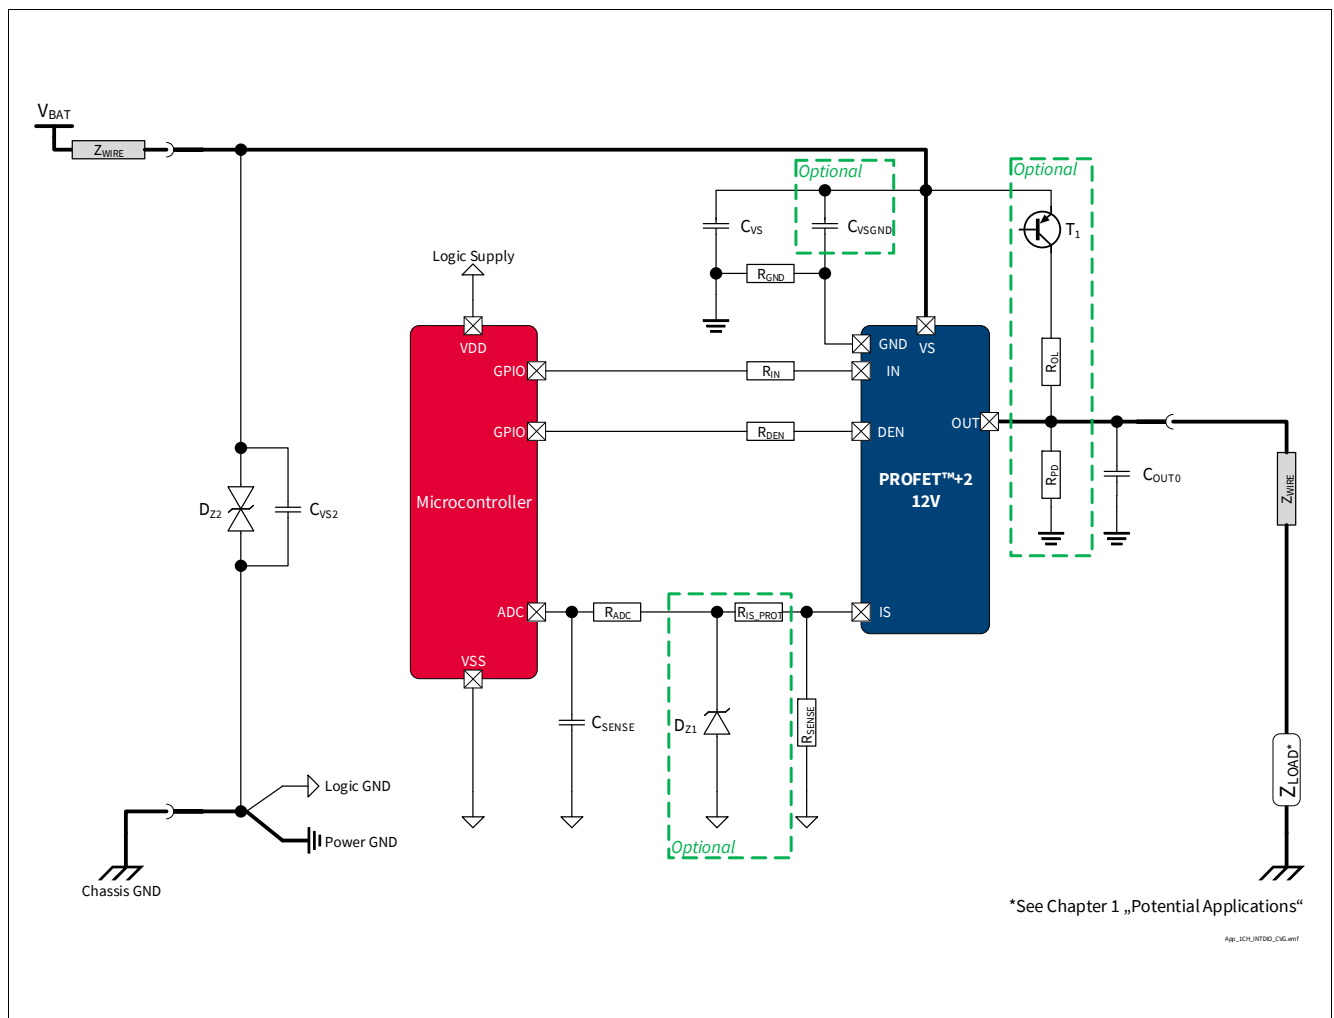

Figure 37 BTS7002-1EPP Application Diagram
1.04 , 2019-10-15	<p>P_6.5.20.1 updated (Typ.: 0.01 μA \rightarrow 0.1 μA)</p> <p>P_8.7.10.1, P_8.7.10.7, P_8.7.10.8 updated (added in Note or Test Condition: link to Figure 24)</p> <p>P_7.5.10.5 updated (added in Note or Test Condition: see Figure 18)</p> <p>P_7.5.10.12 updated (added in Note or Test Condition: see Figure 20; deleted unnecessary space in Symbol: $dV_{OUT} / dt \rightarrow dV_{OUT} / dt$)</p> <p>P_8.7.10.6 updated (added in Note or Test Condition: see Figure 25)</p> <p>P_9.7.10.1 updated (added in Note or Test Condition: see Figure 32)</p> <p>Figure 1, Figure 37 updated</p> <p>P_4.3.0.7 added</p> <p>Table 22 updated</p> <p>Chapter 5.1 updated (added: see Chapter 10 for the complete application setup overview)</p> <p>Chapter 9.2 updated ($2\text{ V} \rightarrow V_{DS(OFF)}$)</p> <p>General: updated (ReverSave™ \rightarrow ReverseON)</p>
1.01 , 2018-06-14	<p>Page numbering corrected</p> <p>Figure Application Diagram, Figure 29, Figure 37 updated</p>